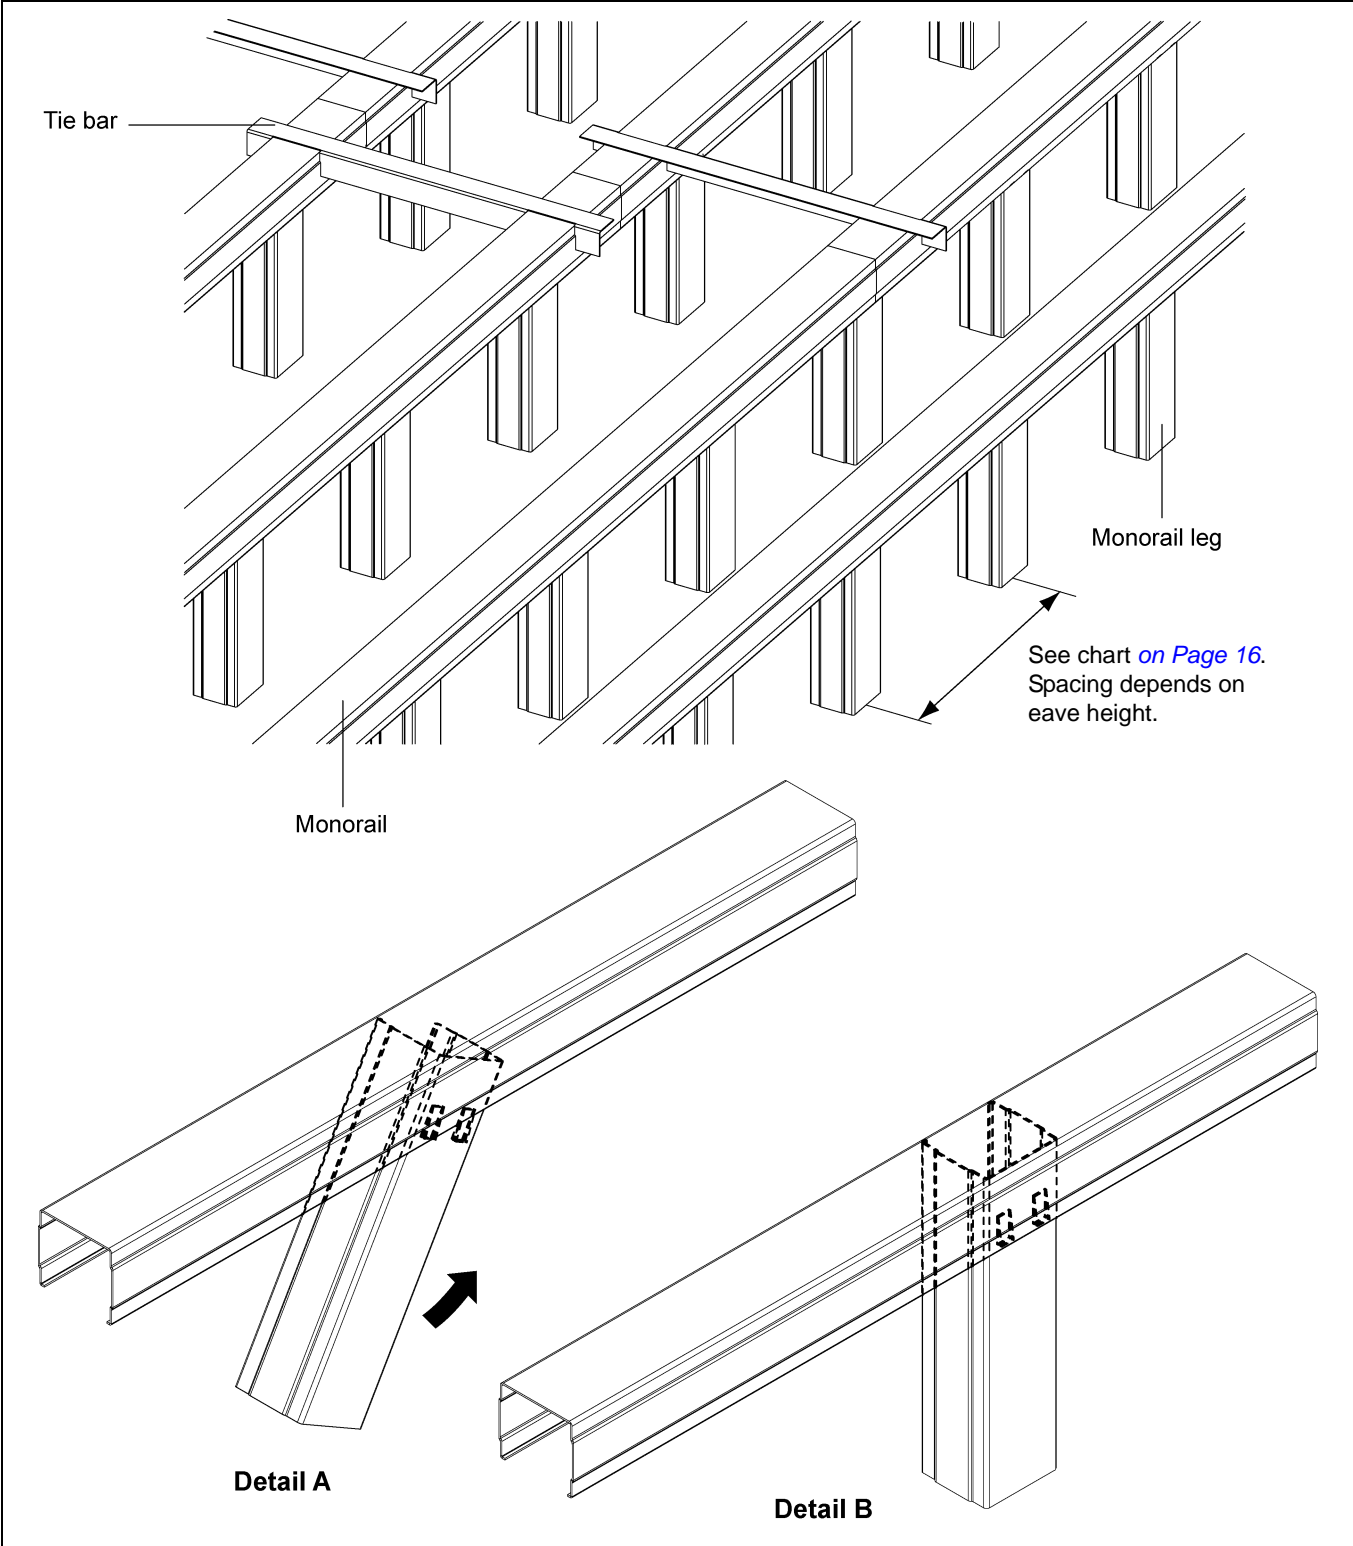

Figure 4E Assembly Leg Rail
- 3. The leg can then be pushed down into the rail until the tabs lock it into place. (See Figure 4E.)